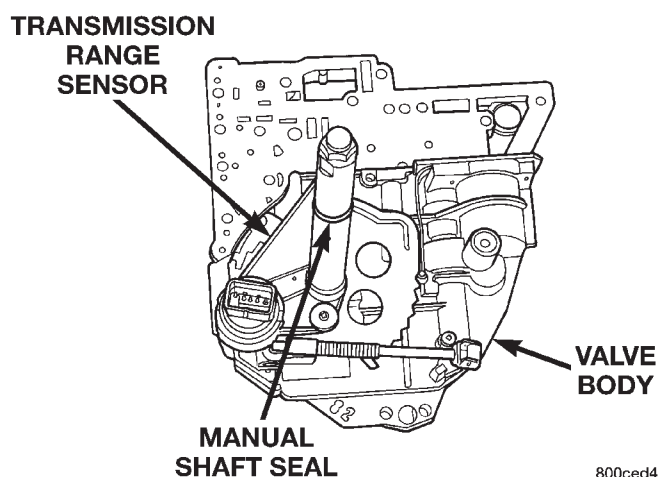

Fig. 25 Valve Body W/TRS
- (1) Disconnect battery negative cable.
- (2) Remove engine air cleaner and tube.
- (3) Remove gearshift cable.
- (4) Remove manual valve lever.
- (5) Disconnect transmission range sensor connector.
- (6) Hoist vehicle.
- (7) Carefully remove transaxle oil pan and drain fluid.
- (8) Remove transaxle oil filter. Let transaxle oil drain fully.
- (9) Remove valve body retaining bolts.
- (10) Extract park rod from guide bracket and remove valve body from transaxle.
- (11) Place valve body on workbench (Fig. 25).